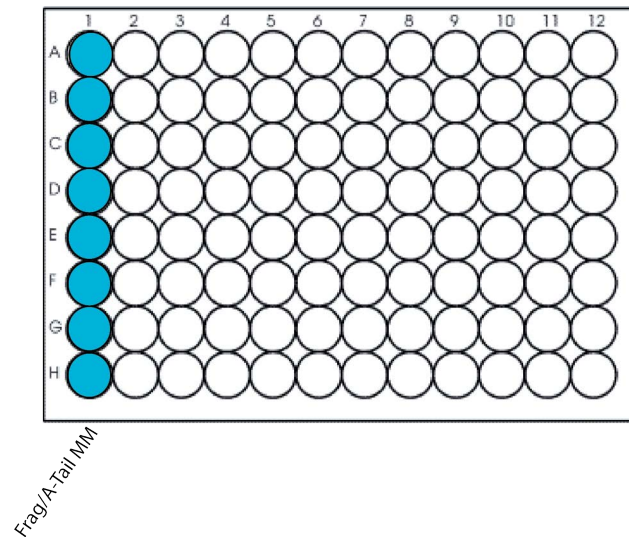

Figure 5 Configuration of the **Agilent Deep Well** master mix source plate for protocol EnzFrag_ERA_SS_Max
- 3** Prepare the **Agilent Deep Well** master mix source plate for the run as indicated in **Table 24**. Add the indicated volume of the Frag/A-Tail master mix to all wells of column 1 of the plate. Keep the master mix on ice during the aliquoting steps. The final configuration of the master mix source plate is shown in **Figure 5**.